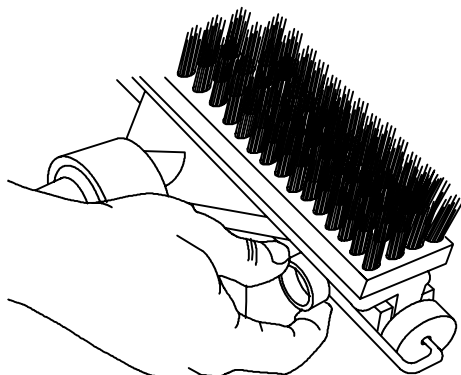

FIG. 42
9. Hard Floor Wand Option: If wand is hard to push, or has poor pick up, turn black adjustment knob to adjust roller wheel (Figure 42).